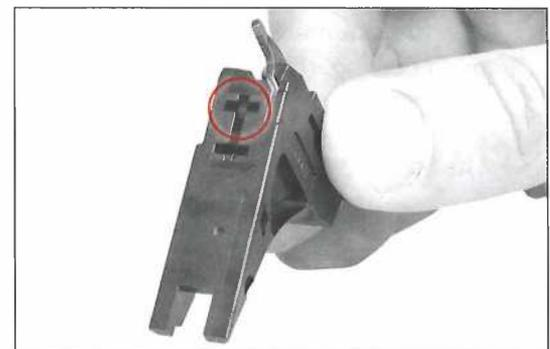

Fig. 267
- Insert the front polymer end through the top slot in the front of the housing. (Fig. 267)